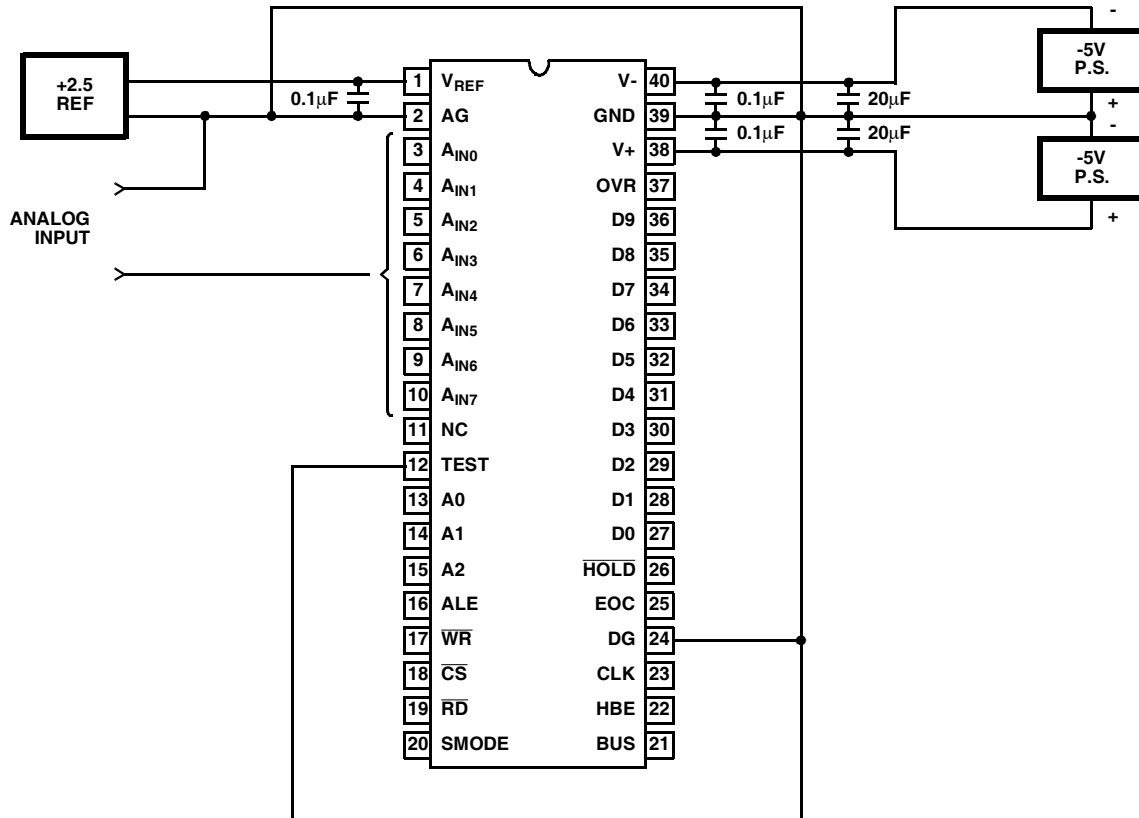

FIGURE 3. GROUND AND POWER SUPPLY DECOUPLING
The HI-7153 has three ground pins (AG, DG, GND) for improved system accuracy. Proper grounding and bypassing is illustrated in Figure 3. The AG pin is a ground pin and is used internally as a reference ground. The reference input and analog input should be referenced to the analog ground (AG) pin. The digital inputs and outputs should be referenced to the digital ground (DG) pin. The GND pin is a return point for the supply current of the comparator array. The comparator array is designed such that this current is approximately constant at all times and does not vary with input voltage. By virtue of the switched capacitor nature of the comparators, it is necessary to hold GND firmly at zero volts at all times. There-